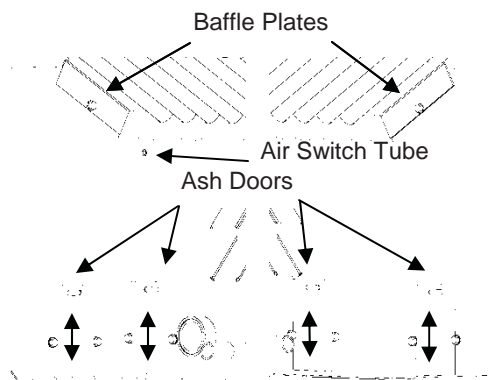

FIGURE 19
- Interior Chambers** – Four ash doors and two upper baffles in the firebox in the P4000 can be removed for periodic cleaning (Figure 19). These doors allow access to the chamber surrounding the firebox.